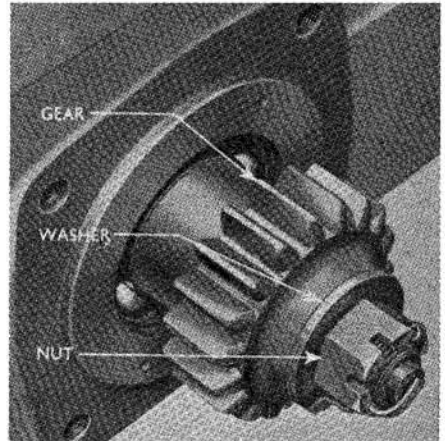

Fig. 175—View of PTO drive shaft and drive gear with raised PTO assembly removed. Latest shaft has gear retaining snap ring instead of nut.
With the raised PTO unit removed, the extension shaft (33), bearing and drive gear assembly (see Fig. 175) can be withdrawn from rear axle center housing.
shaft differs from that shown in Fig. 175 in that a bearing and retaining snap ring are fitted on rear end of shaft instead of the flat washer, nut and cotter pin. To disassemble extension shaft, remove the snap ring or cotter pin, nut and washer and pull drive gear from rear end of shaft. Remove the retaining snap ring (28—Fig.